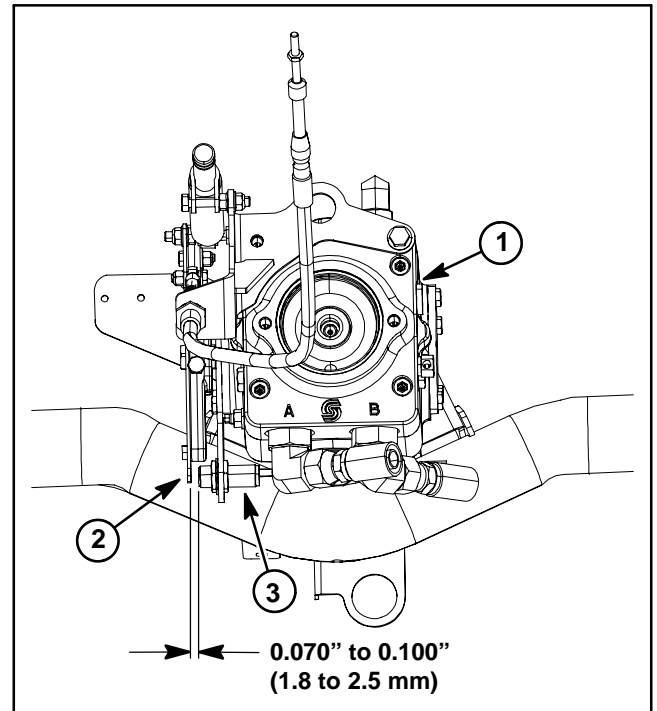

Figure 15
2. When the traction lever is in the neutral position, the gap between the head of neutral switch and the traction lever bracket should be from 0.070" to 0.100" (1.8 to 2.5 mm) (Fig. 15).